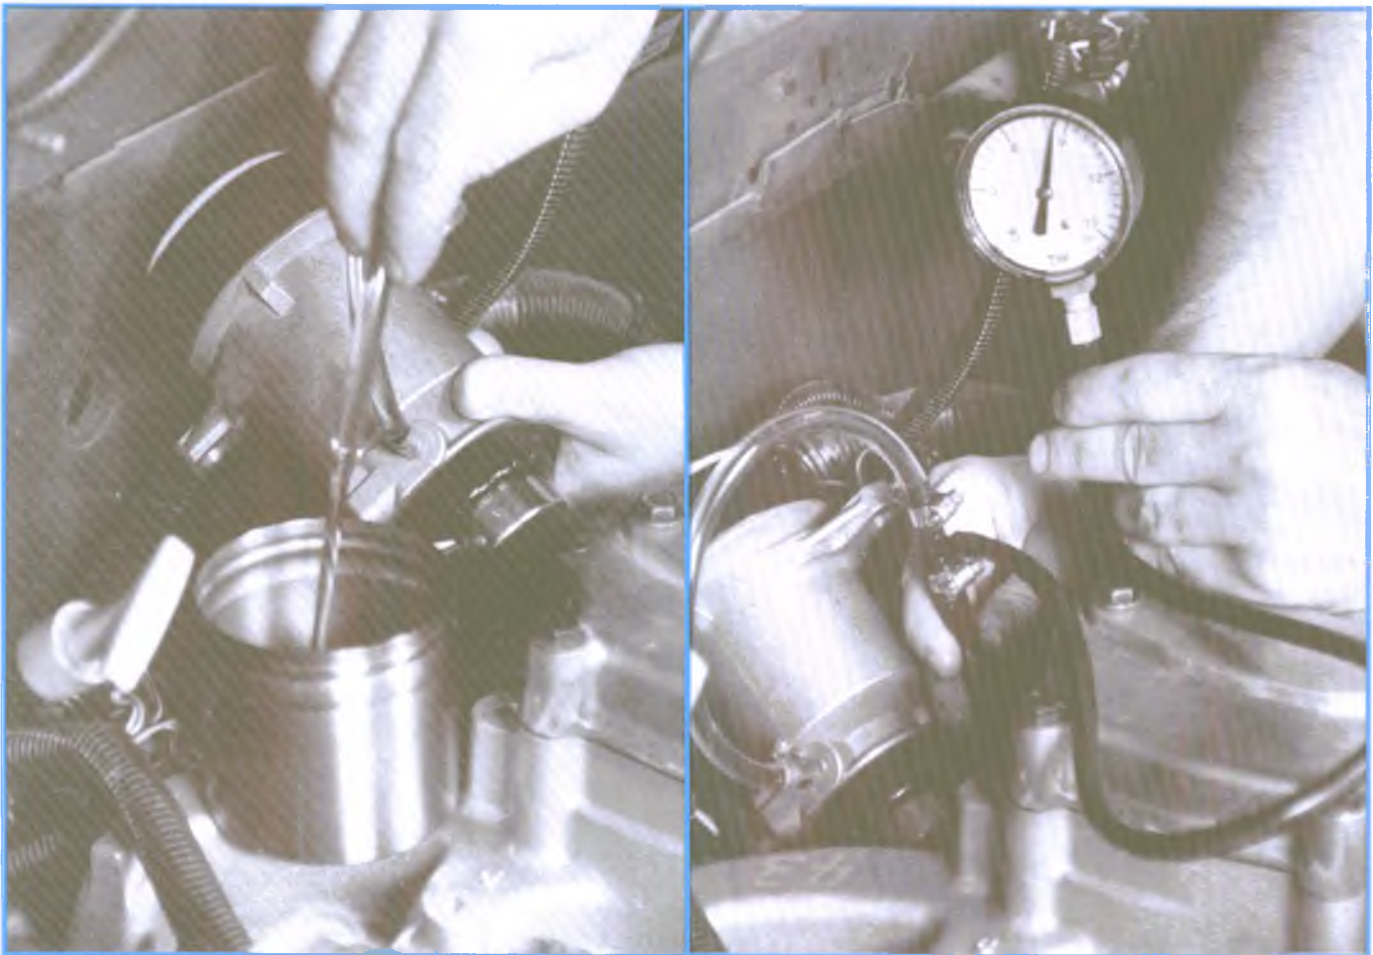

Figure 7-47, Injection Pump Fuel Supply Checks
1. Check the fuel supply to the injection pump (refer to Figure 7-47):